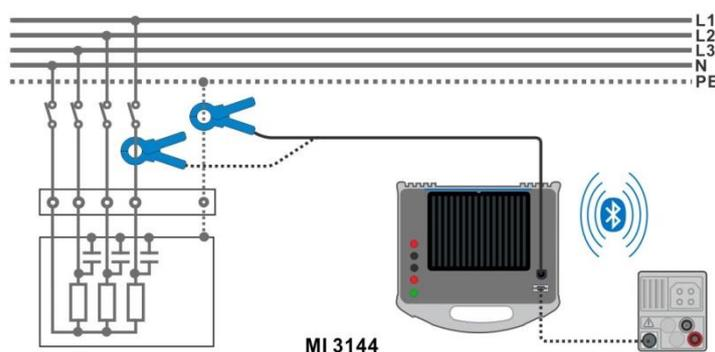

Figure 7.79: Current Clamp Meter measurement
- › Connect MI 3152(H) instrument with MI 3144 Euro Z instrument via serial RS232 or pair them using Bluetooth communication. See chapter **4.6.5.1 Configuration of measuring adapters**.
- › Check Bluetooth communication active sign if MI 3144 Euro Z 800 V instrument is connected to MI 3152(H) instrument via Bluetooth communication.
- › Wrap the object under test with the measuring clamp. See **Figure 7.79**. Refer to *MI 3144 Euro Z 800 V Instruction manual* for detailed information.